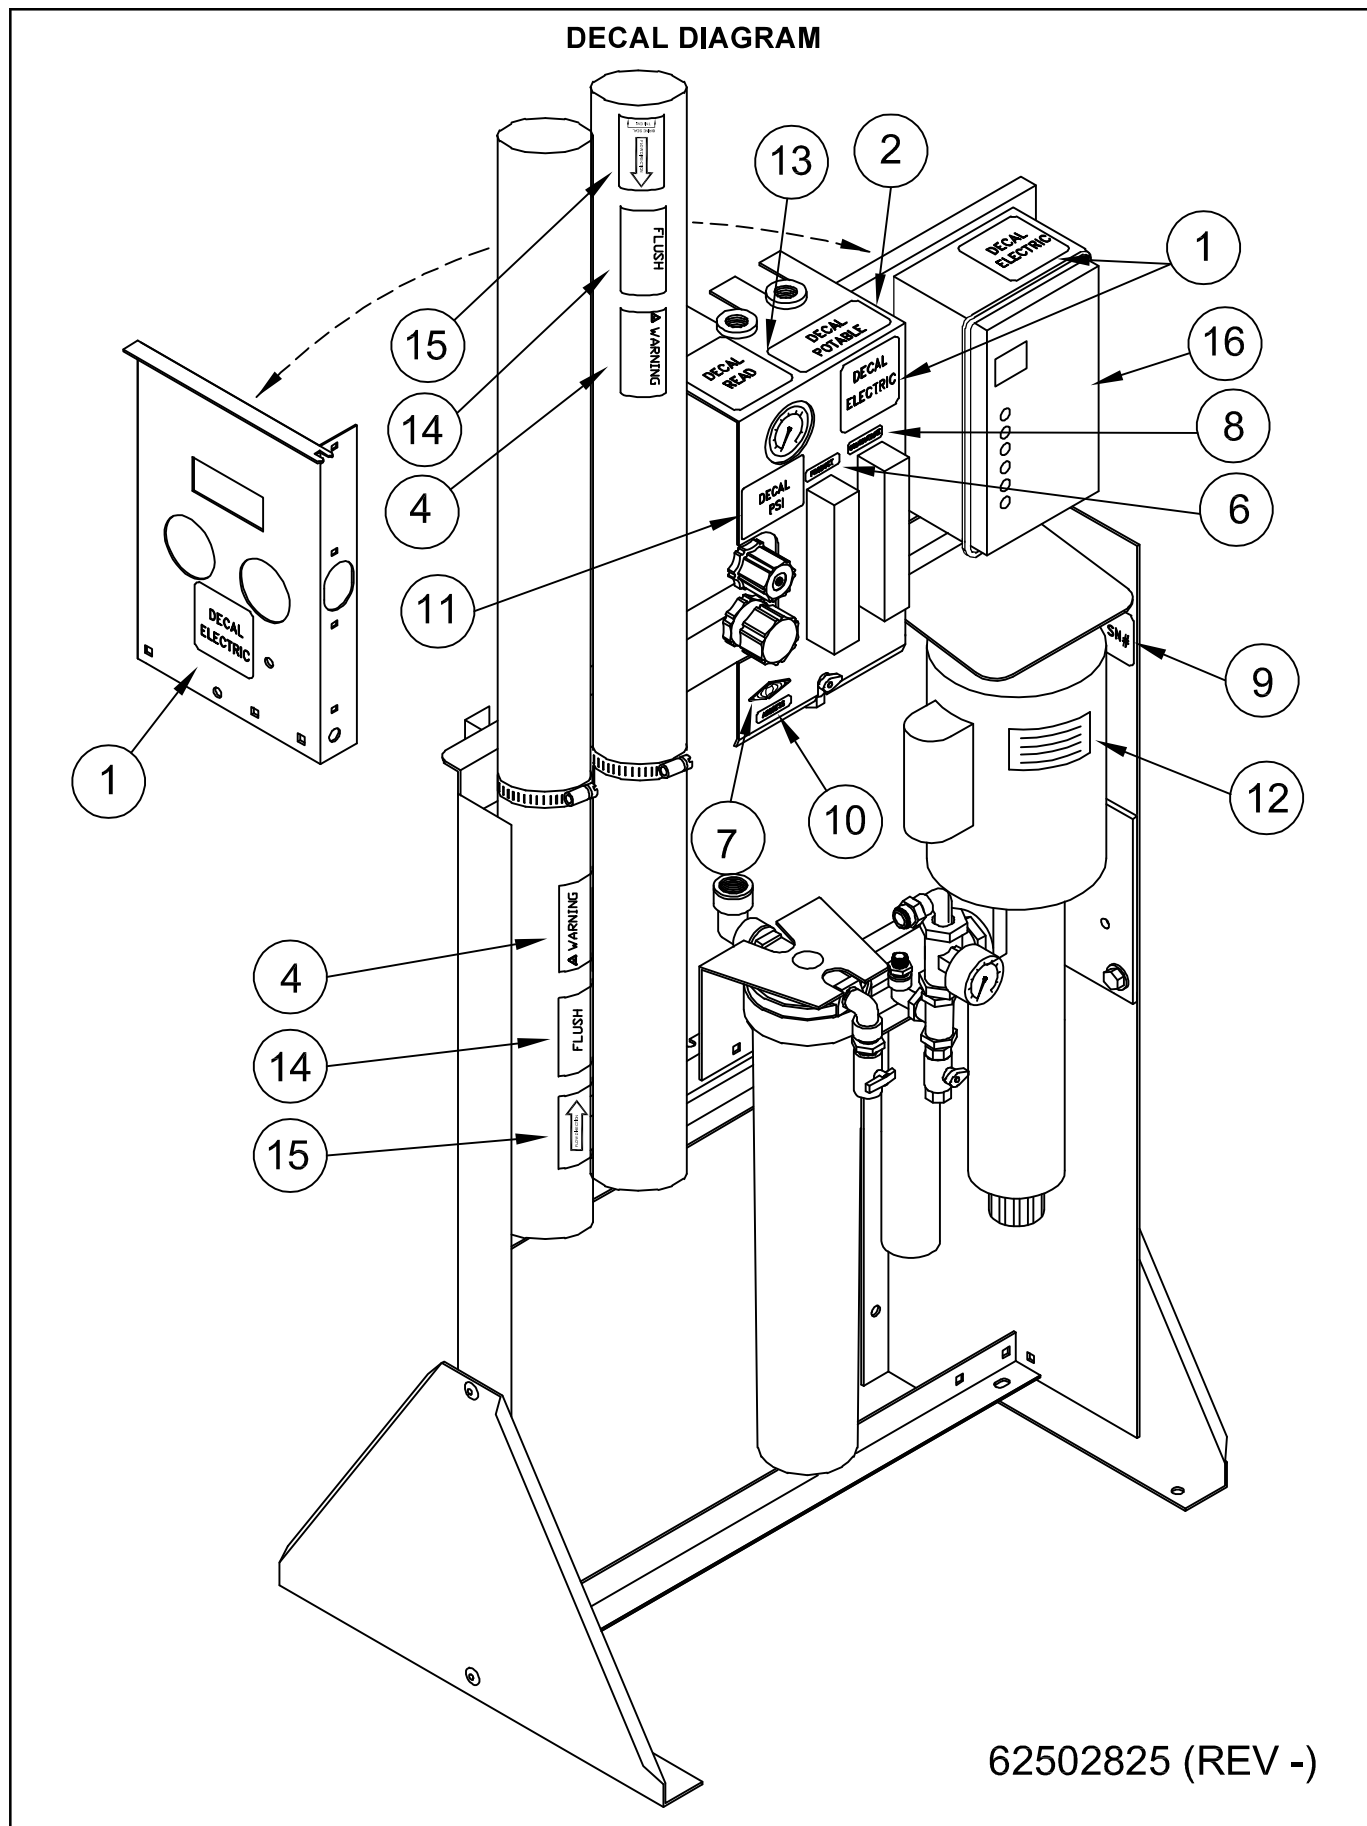

FIGURE 1
1. Decal 625-002-075 located on flowmeter panel and electrical bracket rear. (Fig. 1)
2. Decal 625-002-085 located by inlet. (Fig. 1)
4. Decal 625-004-426 located on pressure vessel. (Fig 1)
6. 625-004-018 Decal, permeate, located on control bracket (Fig. 1)
7. 625-001-030 Decal, Coster 1/4 size logo located on control bracket (Fig. 1)
8. 625-002-093 Decal, concentrate, located on control bracket (Fig. 1)
9. 625-004-475 Serial Plate, located on frame below electrical bracket (Fig. 1)
10. 625-001-025 Decal, Coster address, located on control bracket (Fig. 1)
11. 62500527 Decal, 125 PSI max. (Fig. 1)
12. 625-004-488 Decal, Caution, 120 VAC 60 Hz. (120 VAC 60 Hz units only). located on pump motor. (Fig 1)
12. 625-004-489 Decal, 240 VAC 60 Hz. (230 VAC 50 Hz. units only) located on pump motor (Fig. 1).
13. 625-005-844 Decal, Caution, read instructions located on control bracket (Fig. 1).
14. 625-004-513 Decal, located on membrane housing (Fig. 1).
15. 62501209 Decal, flow direction, located on membrane housing (Fig. 1).
16. 62502732 Decal, Instruction, located inside electrical box. (Fig. 1)